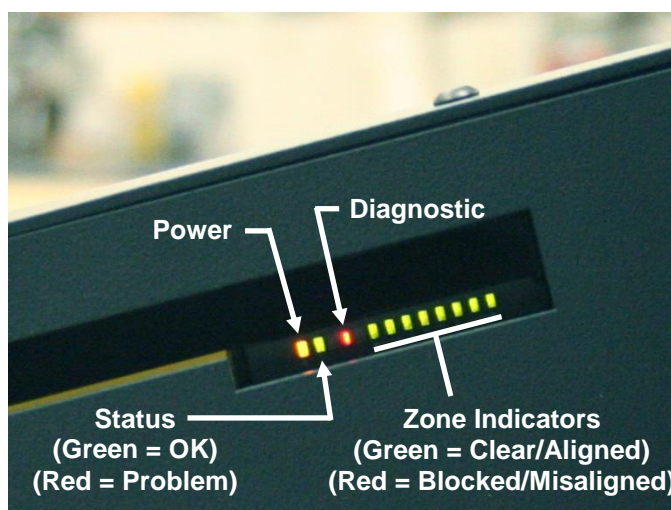
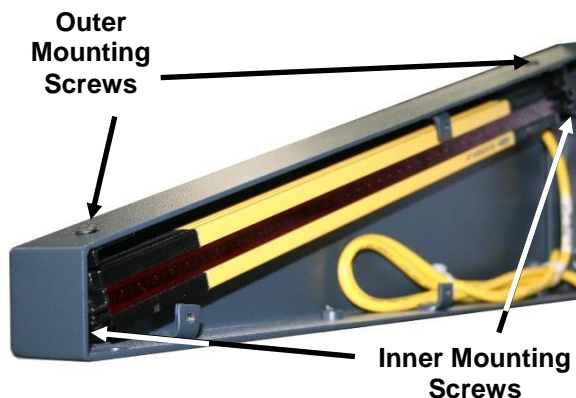

Figure 34 – Electric Eye Indicator Lights
Figure 35
To check if the electric eyes are aligned properly, turn on the power switch and look at the indicator light pattern on the receiver (left hand unit). If the eyes are functioning properly and aligned properly, and if there are no obstructions, the light pattern will look like the one shown in Figure 34 below.
2. Loosen the outer mounting screws (Figure 35) to adjust the eye beam units until they are aligned over their length.
3. Loosen the inner mounting screws (Figure 35) to rotate the beams until they are aligned over their width. When the indicator lights indicate proper alignment as shown in Figure 34, tighten all screws.